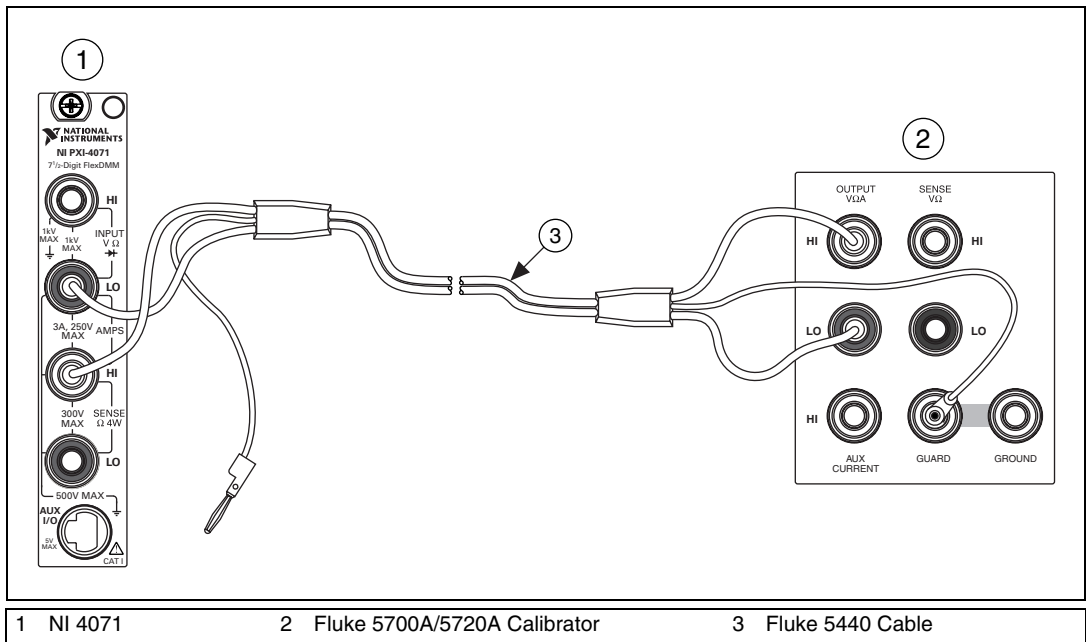

Figure 5. Cable Connections for Current
12. Connect the NI 4071 and the Fluke 5700A/5720A calibrator using the Fluke 5440 cable, as shown in Figure 5. Table 9 lists the cable connections.